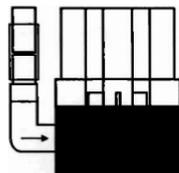

Figure 1
3. Place the 11/16 vinyl tube coupler over the skimmer inlet at the base of the skimmer unit. Insert the elbow end of the "U" skimmer tube into the other end of the 11/16 coupler. Push it together until the two rigid pieces meet. (see figure 1.)